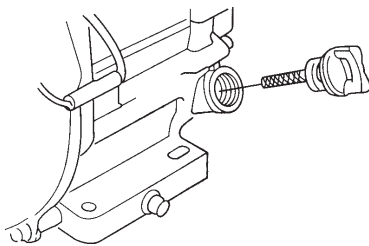

Figure 6. Engine Oil Dipstick (Removal)
2. Remove the filler dipstick from the engine oil filler hole (Figure 6) and wipe it clean.